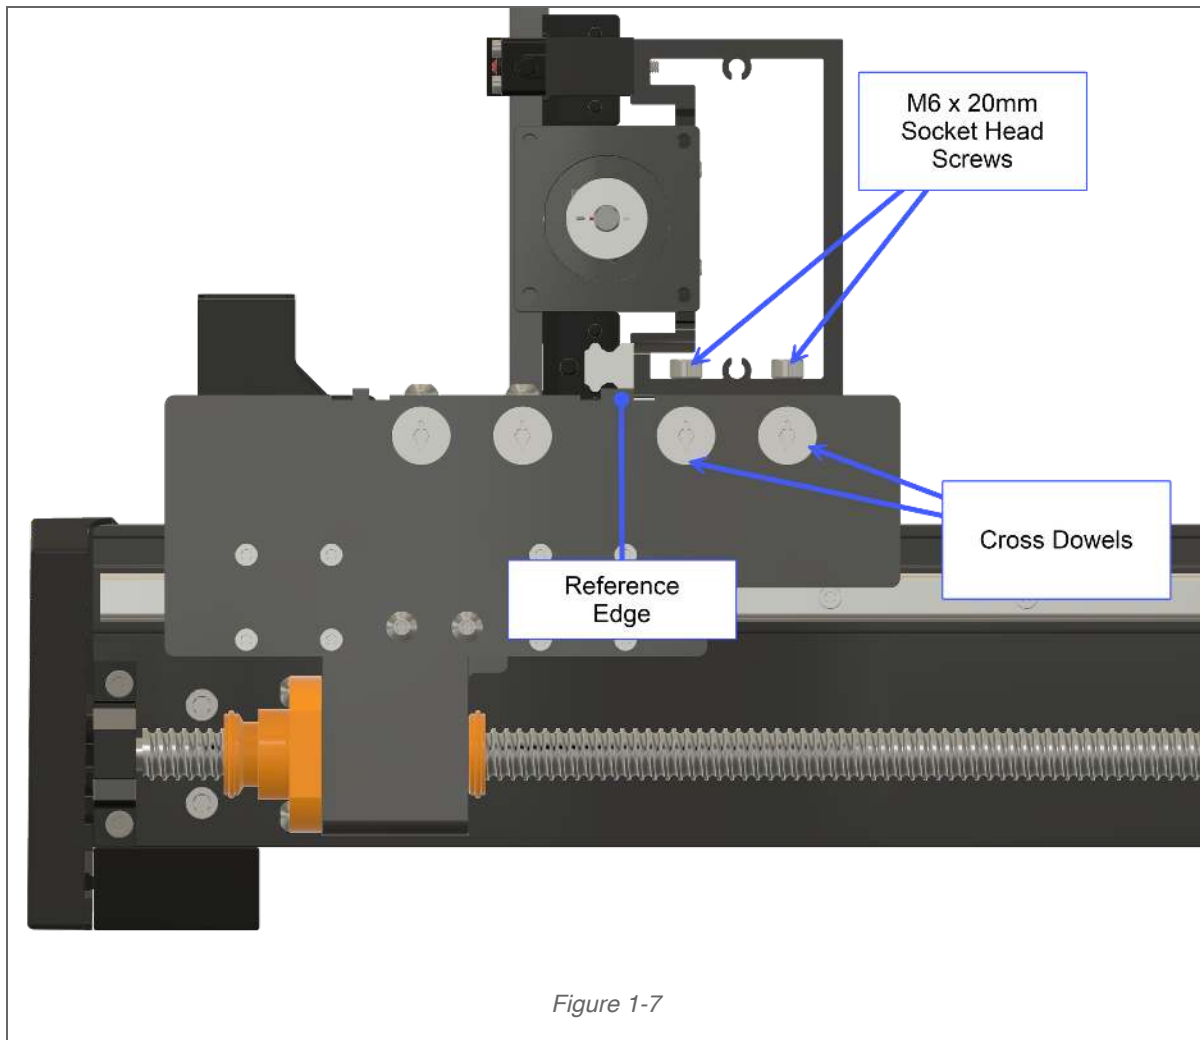

Figure 1-5
1. Lift the **Gantry Assembly** from the box and set it onto the rear position of the Y-Axis carriage plates, over the now-empty screw holes. See Fig. 1-5.